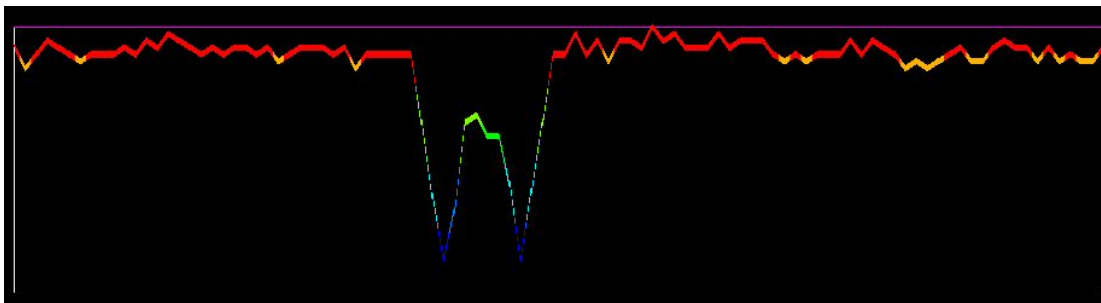

Figure 4.6
16. See "Tunnel & Void Locating" for viewing of scan. (Figure 4.6)
In the above image (Figure 4.6), there is an example of how a tunnel may appear. As you can see, there is enough background on either side of the void to allow it to stand out better.